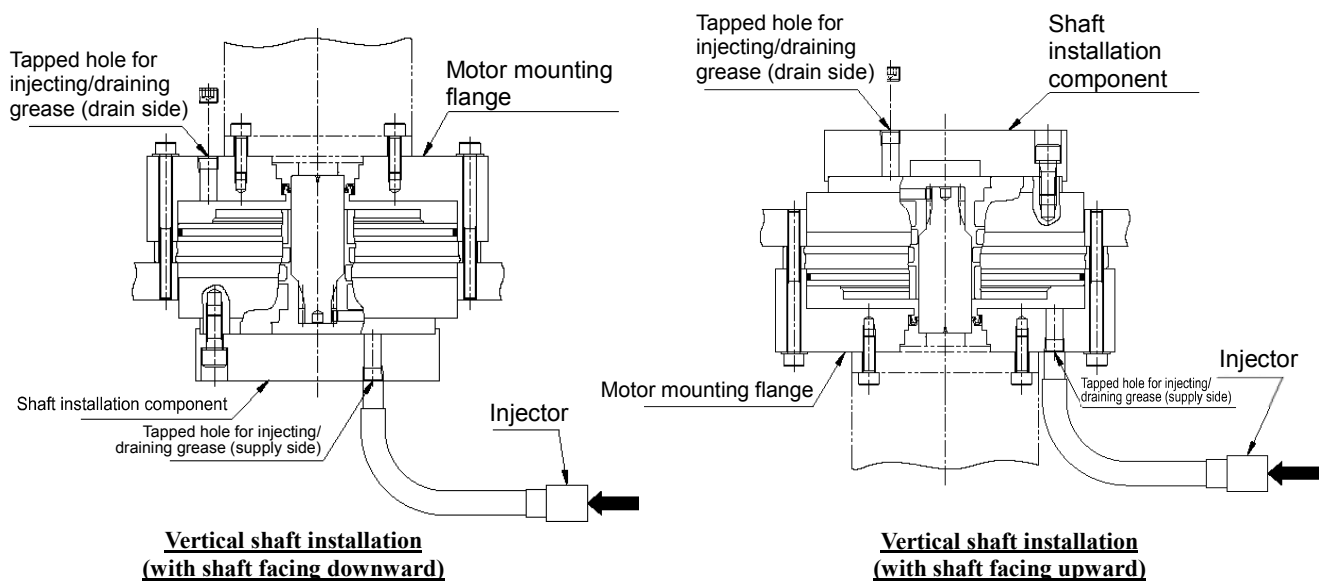

Fig. 6-3
- Remove both of the plugs for tapped holes for injecting/draining grease, and attach a grease nipple, etc., and then attach the injector. (Reference: Fig. 6-3.)
- The shape of the reduction gear may differ from the illustration in Fig. 6-3, depending on the ordered specifications. For details on the shape, refer to the separately provided "Outer dimensions" drawings and specification sheet.